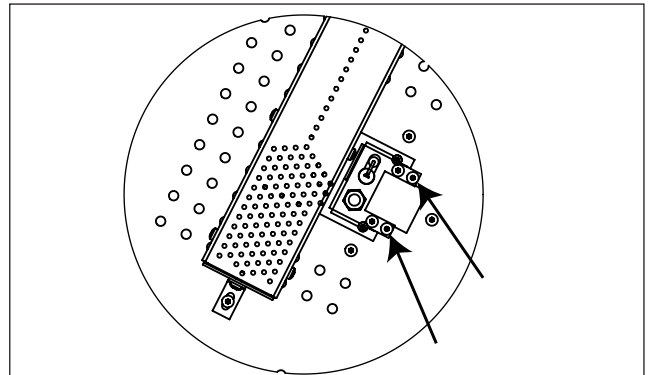

Figure 9: Pilot Mount Removal
- b. Remove the two (2) T-20 screws securing the pilot plate to media tray (See Figure 9).